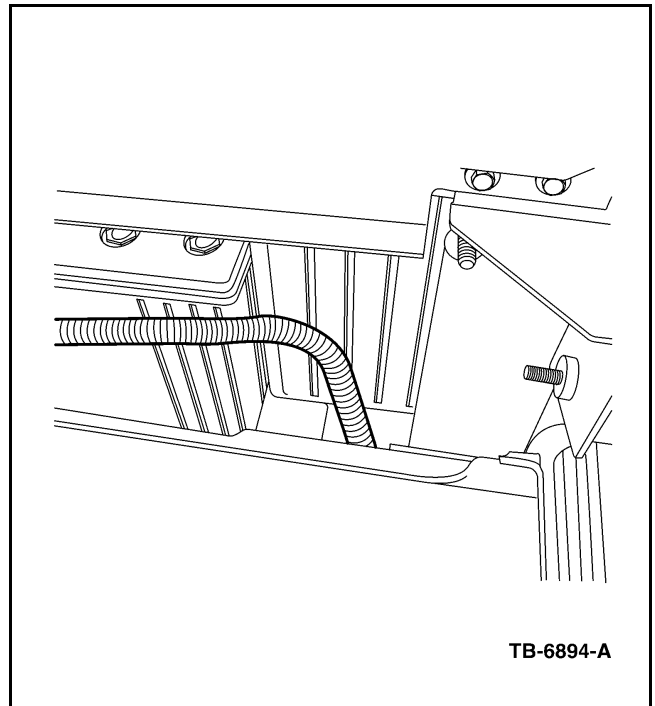

Figure 2 - Article 03-2-1
5. Feed the harness 2E3Z-14401-DB through the opened harness hole in the floor pan, see Figure 2.